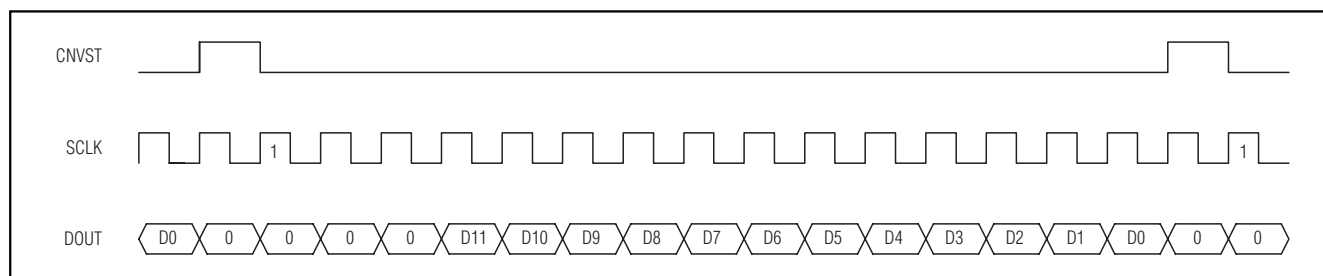
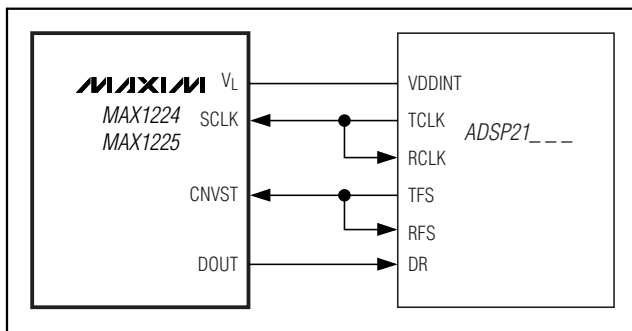

Figure 17. DSP Interface—Continuous Conversion
Figure 19. Interfacing to the ADSP21_—
The MAX1224/MAX1225 can also be connected to the TMS320C54_ by using the data transmit (DX) pin to drive CNVST and the CLKX generated internally to drive SCLK. A pullup resistor is required on the CNVST signal to keep it high when DX goes high impedance and 0001hex should be written to the DXR continuously for continuous conversions. The power-down modes may be entered by writing 00FFhex to the DXR (see Figures 17 and 18).
The MAX1224/MAX1225 can be directly connected to the ADSP21_ _ _ family of DSPs from Analog Devices, Inc. Figure 19 shows the direct connection of the MAX1224/MAX1225 to the ADSP21_ _ _ . There are two modes of operation that can be programmed to interface with the MAX1224/MAX1225. For continuous conversions, idle CNVST low and pulse it high for one clock cycle during the LSB of the previous transmitted word. The ADSP21_ _ _ STCTL and SRCTL registers should be configured for early framing (LAFR = 0) and for an active-high frame (LTFS = 0, LRFS = 0) signal. In this mode, the data-independent frame-sync bit (DITFS = 1) can be selected to eliminate the need for writing to the transmit-data register more than once. For single conversions, idle CNVST high and pulse it low for the entire conversion. The ADSP21_ _ _ STCTL and SRCTL registers should be configured for late framing (LAFR = 1) and for an active-low frame (LTFS = 1, LRFS = 1) signal. This is also the best way to enter the power-down modes by setting the word length to 8 bits (SLEN = 1001). Connect the V_L pin to the ADSP21_ _ _ supply voltage when the MAX1224/MAX1225 are operating with a supply voltage higher than the DSP supply voltage (see Figures 17 and 18).